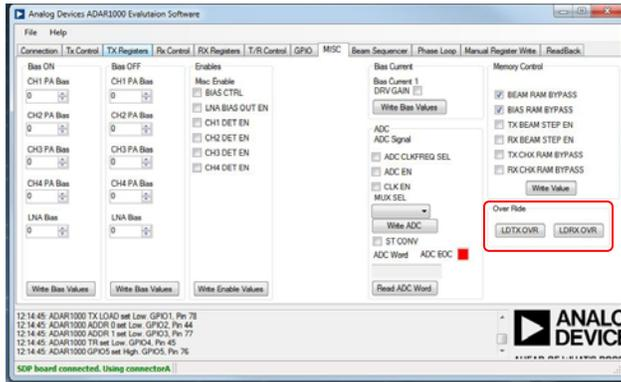

Figure 13. Load Transmit Override
1. Click the **MISC** tab (see Figure 13).